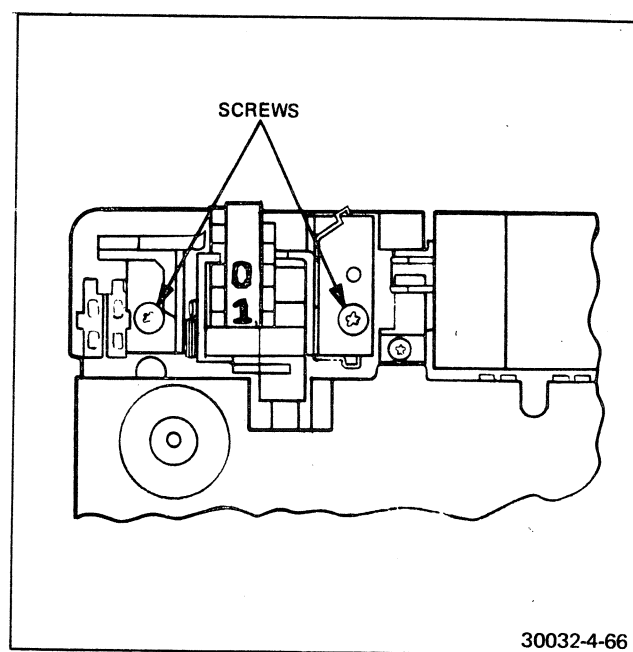

FIGURE 4-66 COUNTER BRACKET SCREWS
15. Remove the two screws which secure the counter assembly to the inner frame. See Figure 4-66.